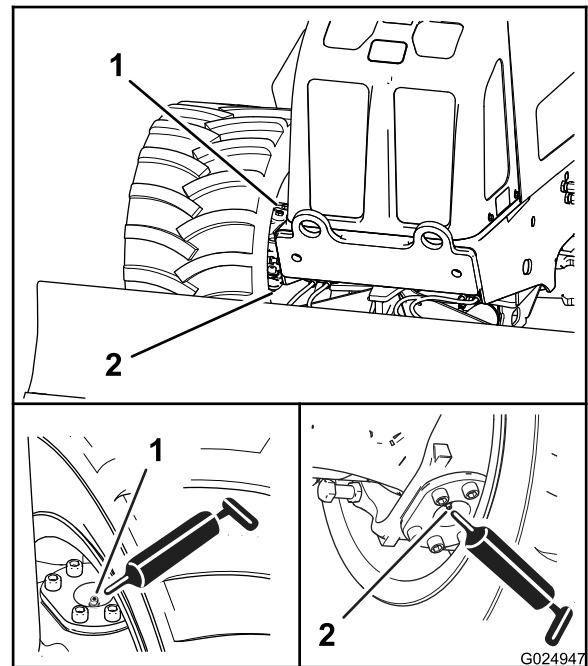
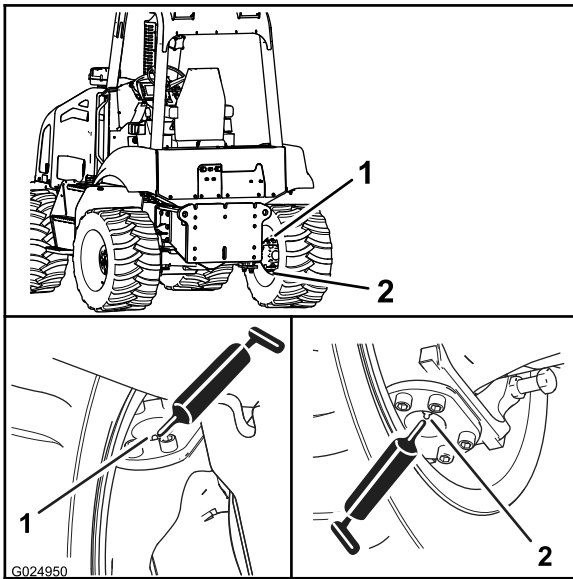

Figure 54
Figure 55
2. Connect the grease gun to the grease fittings for the upper and lower pivots; apply 2 or 3 pumps of grease to each fitting (Figure 54 and Figure 55).